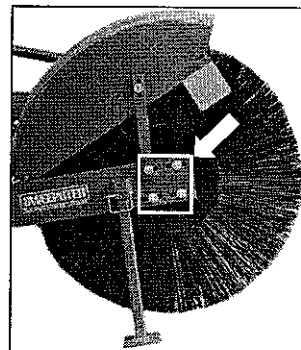

figure 33
1. Loosen 4 carriage bolts holding each bearing assembly (figures 33 and 34).